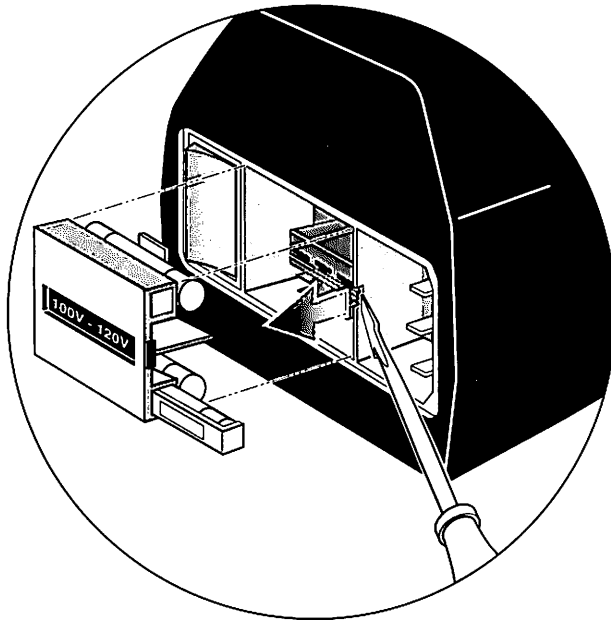

Figure 6-15. Removing the fuse carrier.
- 5 Using a small, flat-blade screwdriver, carefully pry the fuse from the spring clip as shown in Figure 6-15.
- Using your fingers, pinch the fuse carrier clips together and lift out the carrier (Figure 6-15).